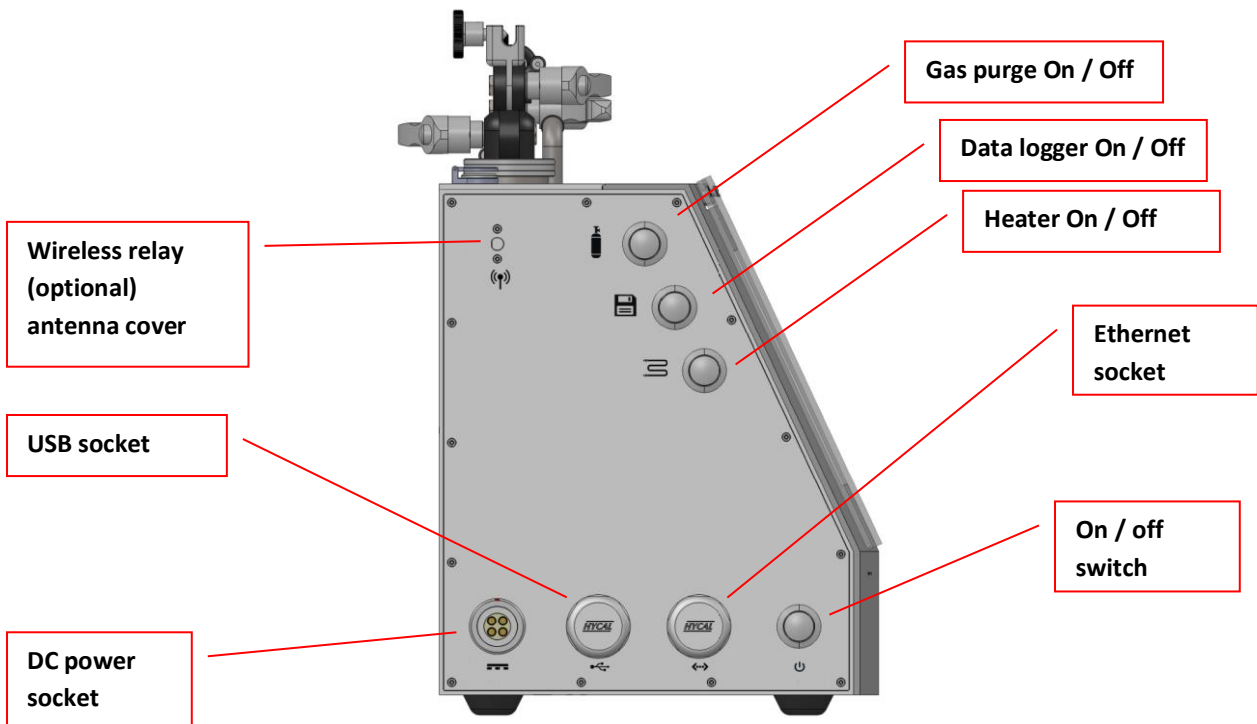

Figure 3: Hycal analyser electrical panel
The Hycal analyser can operate from its internal battery or from a mains voltage source using the included DC power supply unit. The battery provides 8 - 14 hours of continuous running time, depending on screen brightness settings. The DC power supply unit is suitable for use with all AC voltages between 85 and 265 V RMS (47 to 63 Hz). Voltage selection is automatic. The supplied DC power cable mates with the power socket on the side panel of the analyser (see Figure 3).
3. Connect the DC power supply low voltage cable from the power supply to the Hycal's DC power socket (see Figure 3). The green status LED on the Hycal front panel will illuminate, to indicate that DC power is connected.